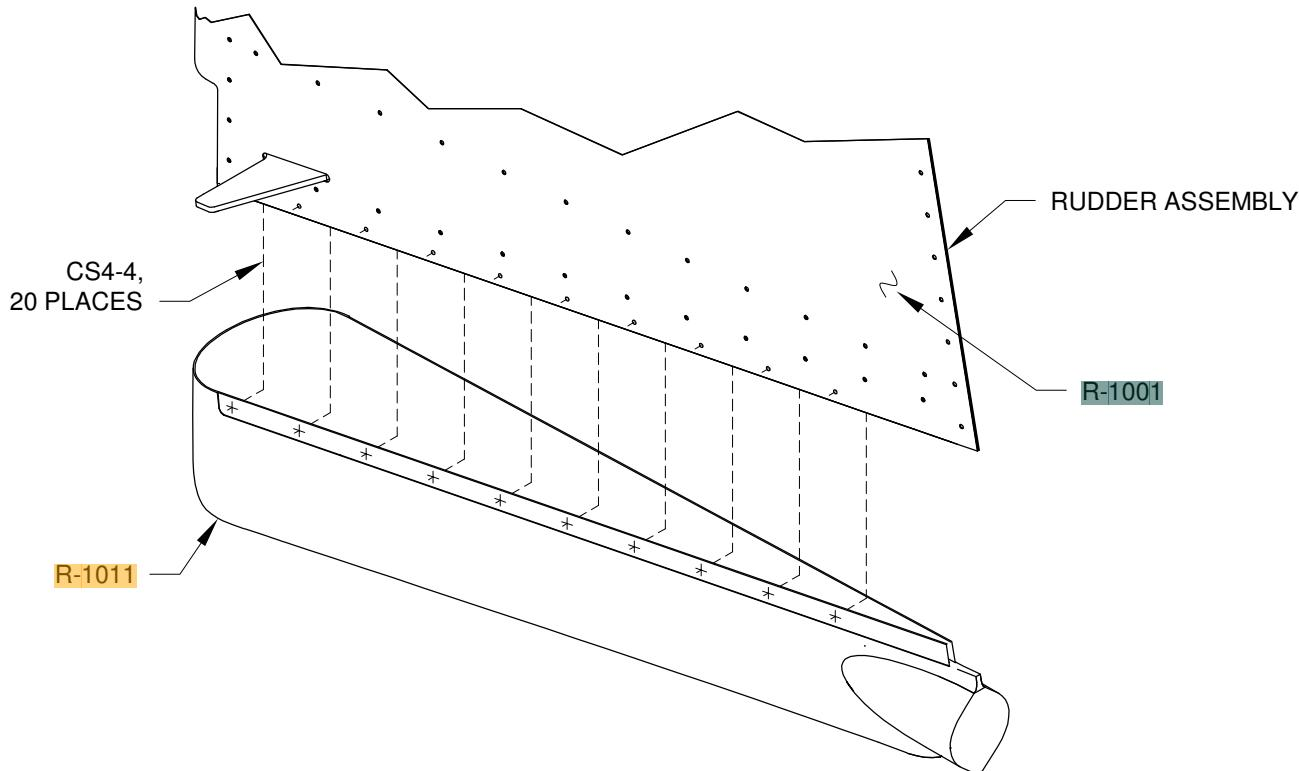
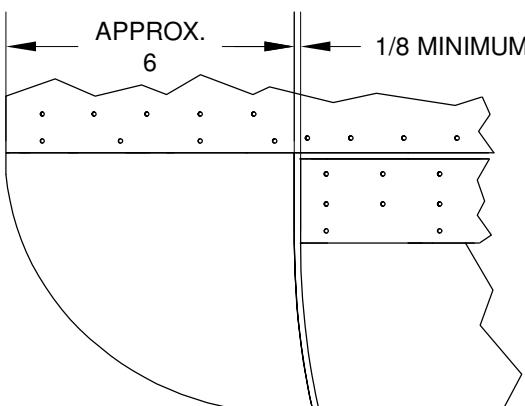

FIGURE 1: INSTALLING THE **R-1011 RUDDER BOTTOM FAIRING**
FIGURE 2: CREATING GAP
Step 4: Cleco and rivet the **R-1011** Rudder Bottom Fairing onto the rudder assembly per the callouts in Figure 1.
Step 5: Trim the width of the molded flange on the **HS-910** Horizontal Stabilizer Tip Fairing if required to meet the dimensions given on Page 12-2, Figure 1. Progressively trim away the aft edge of the horizontal stabilizer tip fairing to leave a minimum 1/8 inch gap between the aft edge of the tip fairing and the forward face of the elevator counterbalance arm. See Figure 2. It will be necessary to temporarily attach the elevator to the horizontal stabilizer assembly, see Page 11-2, Step 3.